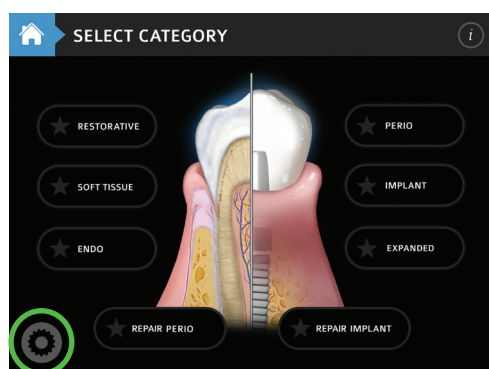

Figure 7A
A. From the Home Menu, select Settings. (Figure 7A)